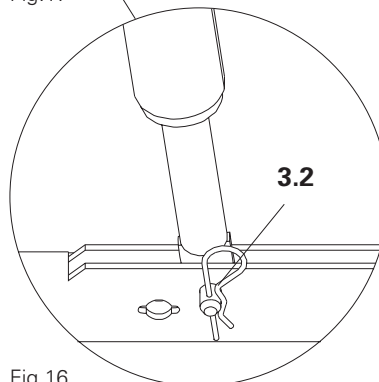

Fig.16
- likewise, kicker braces are connected using the holes **3.2**. Fig. 16